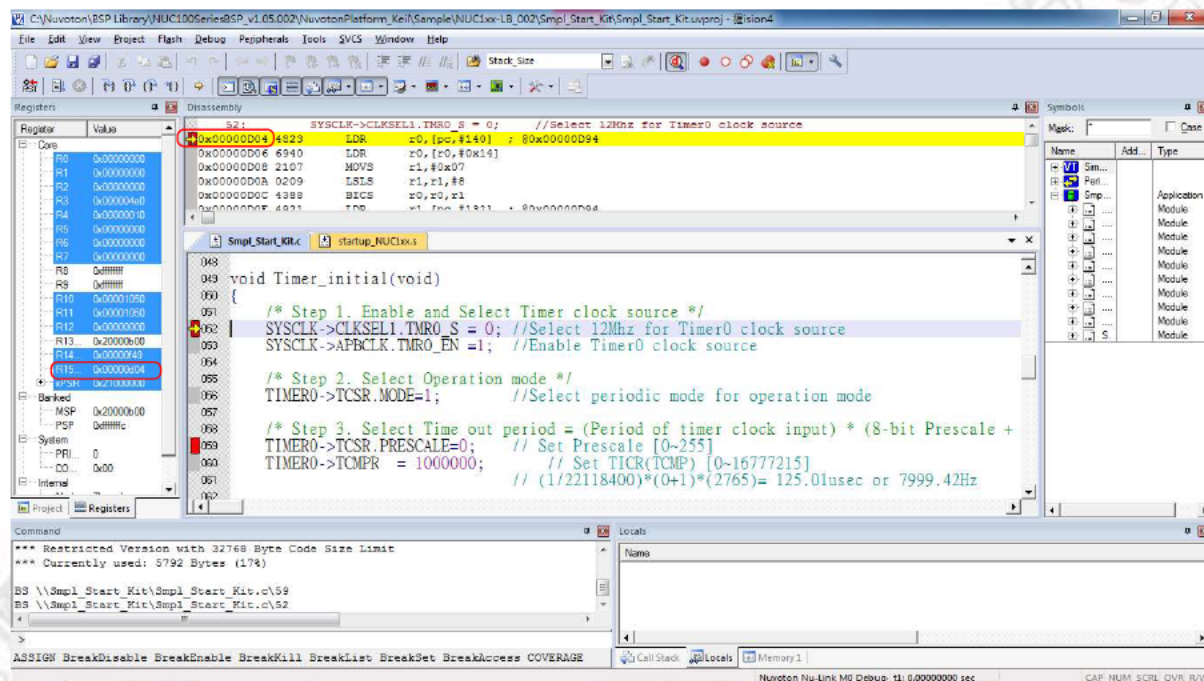

Figure 3-1 Setting Breakpoints in Keil RVMKD Debug Mode
In Debug mode, the user can add breakpoints in the code for debugging. During the real-time simulation of the Nu-Link Adapter, the chip simulation will be stopped at a specific breakpoint. Figure 3-1 shows the breakpoint settings in Keil RVMKD Debug mode. The red labels on lines 052 and 059 indicate the breakpoints inserted; the yellow arrow refers to the code to be executed next and shows the register value of Program Counter (PC) (i.e. “R15(PC)=0x0000D04” in the Registers pane in Figure 3-1).